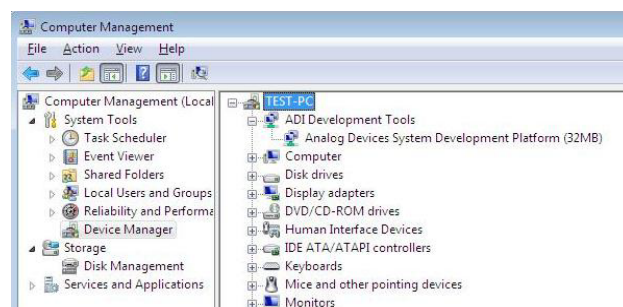

Figure 15. Device Manager:
- The **Computer Management** window appears. From the list of **System Tools**, click **Device Manager** (see Figure 15).